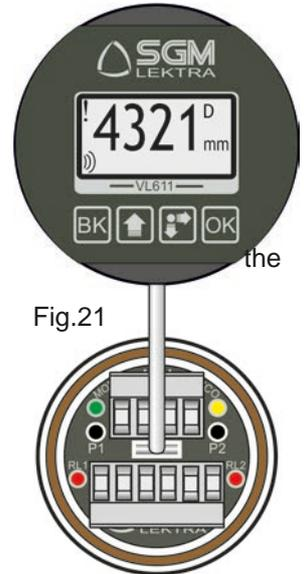

Fig.21
4.1.1 MODBUS RTU PC connection (fig.21)
The **VL611** programming module can be mounted and removed from the **KTU5** without affecting the unit operation. Unscrewing the cap, the **VL611** module can be connected or disconnected as shown in Fig.21. The **VL611** module is equipped with matrix LCD.